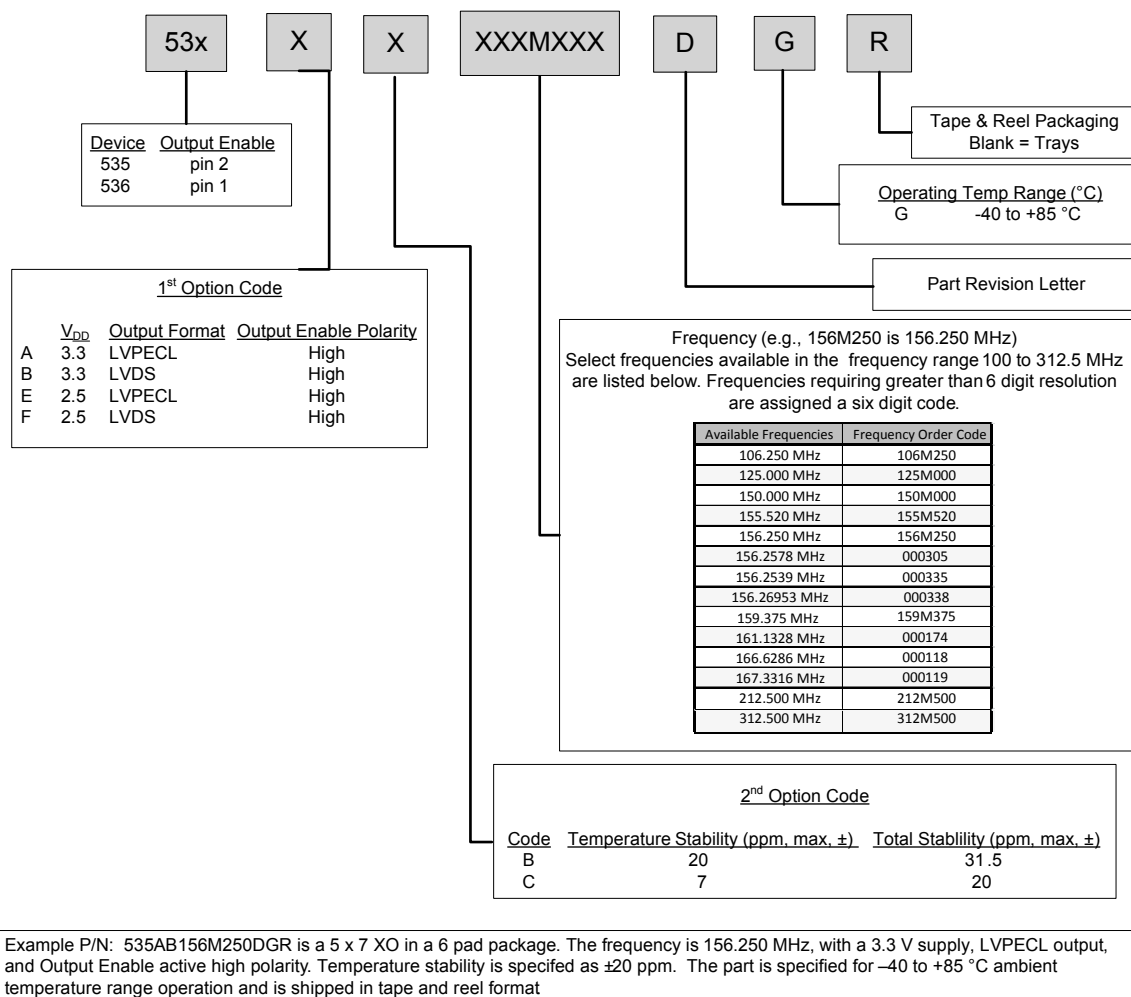

Figure 2. Part Number Convention
- Updated XXXMXXX text in Figure 2 on page 7.
- Updated Figure 2 on page 7.
- Added new frequency option to Figure 2 on page 7.